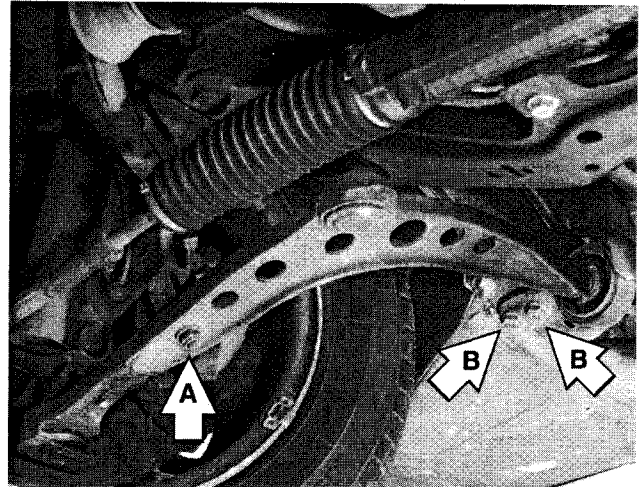

Fig. 3. Stabilizer bar link nut (A) and control arm bushing carrier bolts (B). Right side shown.
9. At left and right sides, unbolt control arm bushing carriers from body. Disconnect stabilizer bar links from control arms. See Fig. 3.